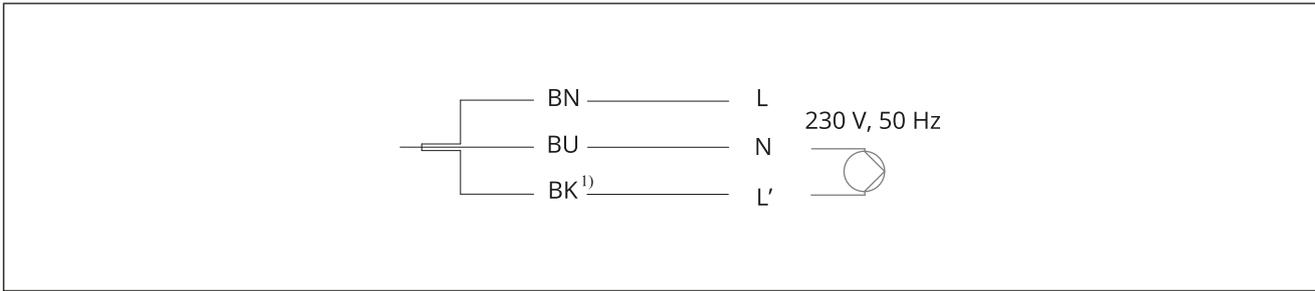
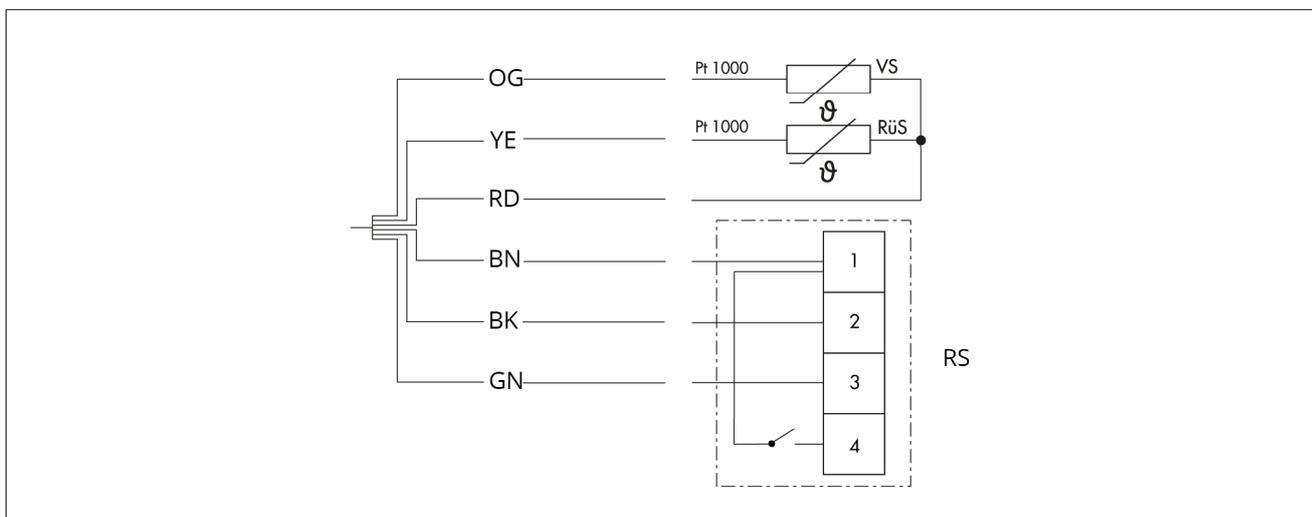

Fig. 9: Electrical connection · Supply line
Fig. 14: Electrical connection · Application with flow sensor, return sensor and room sensor with mode selector switch and room set point adjuster
1. Perform the electrical connection depending on the application according to Fig. 9 to Fig. 14.